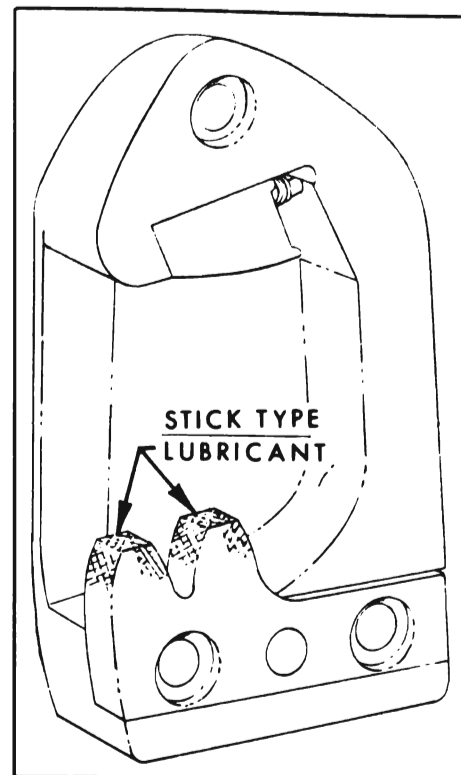

Figure 1-15—Lubrication of Door Lock Striker
3. Door Lock Striker. Wipe off dirt and apply a thin coat of stick-type lubricant to top surface of lock bolt striker teeth. After lubrication, close door several times and remove excess lubricant along the side edge of teeth. See Figure 1-15.